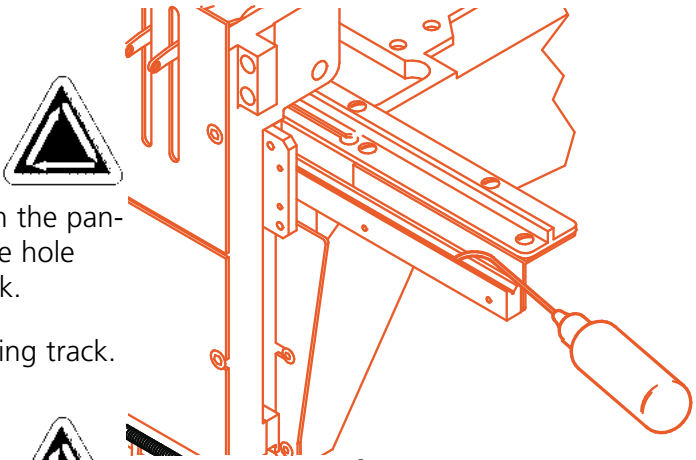

Figure 5-7
2. Figure 5-7 shows the bearing track with the panels removed. Insert the oiler through the hole with the red bushing to access this track.